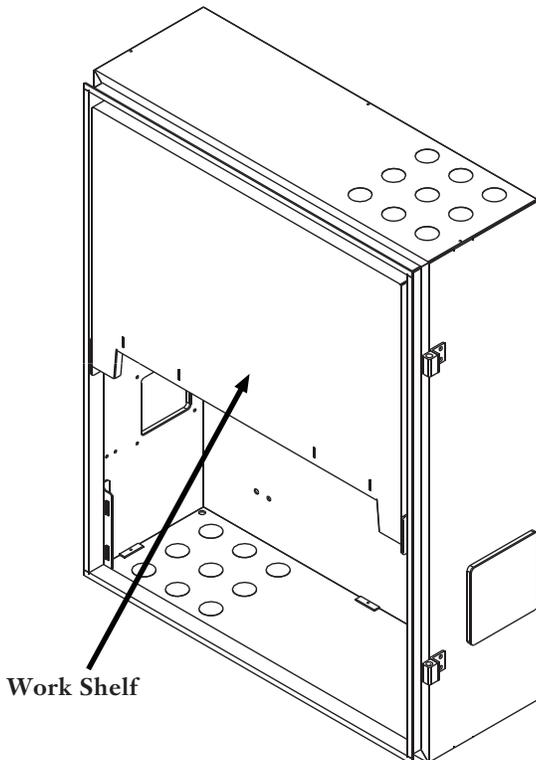

Figure 7
6.3 When not in use, the work shelf can be stored inside the unit on the hanger bracket (Figure 7).